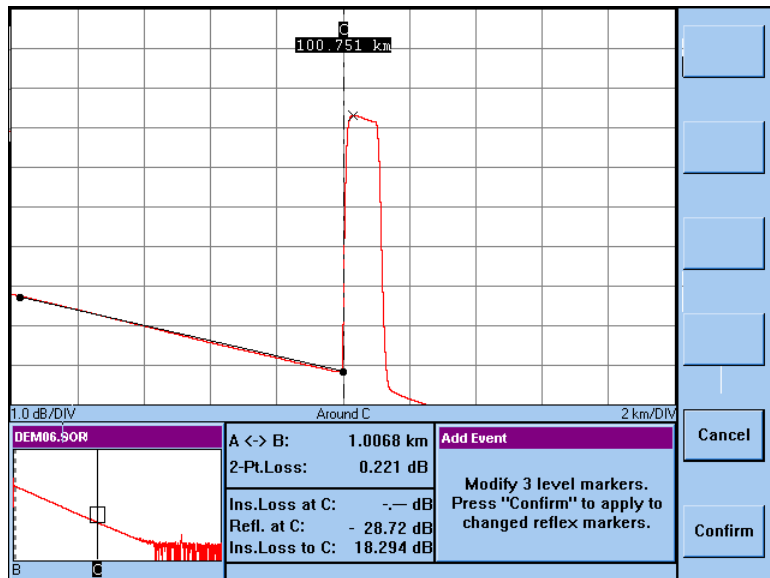

Figure 3-2
- 11 Move the third level-marker to the peak of the reflection (see Figure 3-2).